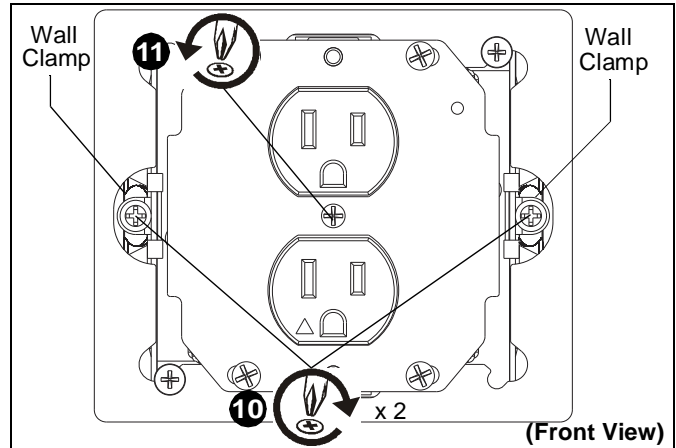

Figure 7
- Tighten screws on the two drywall clamps so that they are locked in place against the drywall, and not laying flat against the EGX-SF2. (See Figure 7)
- Remove Phillips flat head screw and locking washer from in between outlets. (See Figure 7)